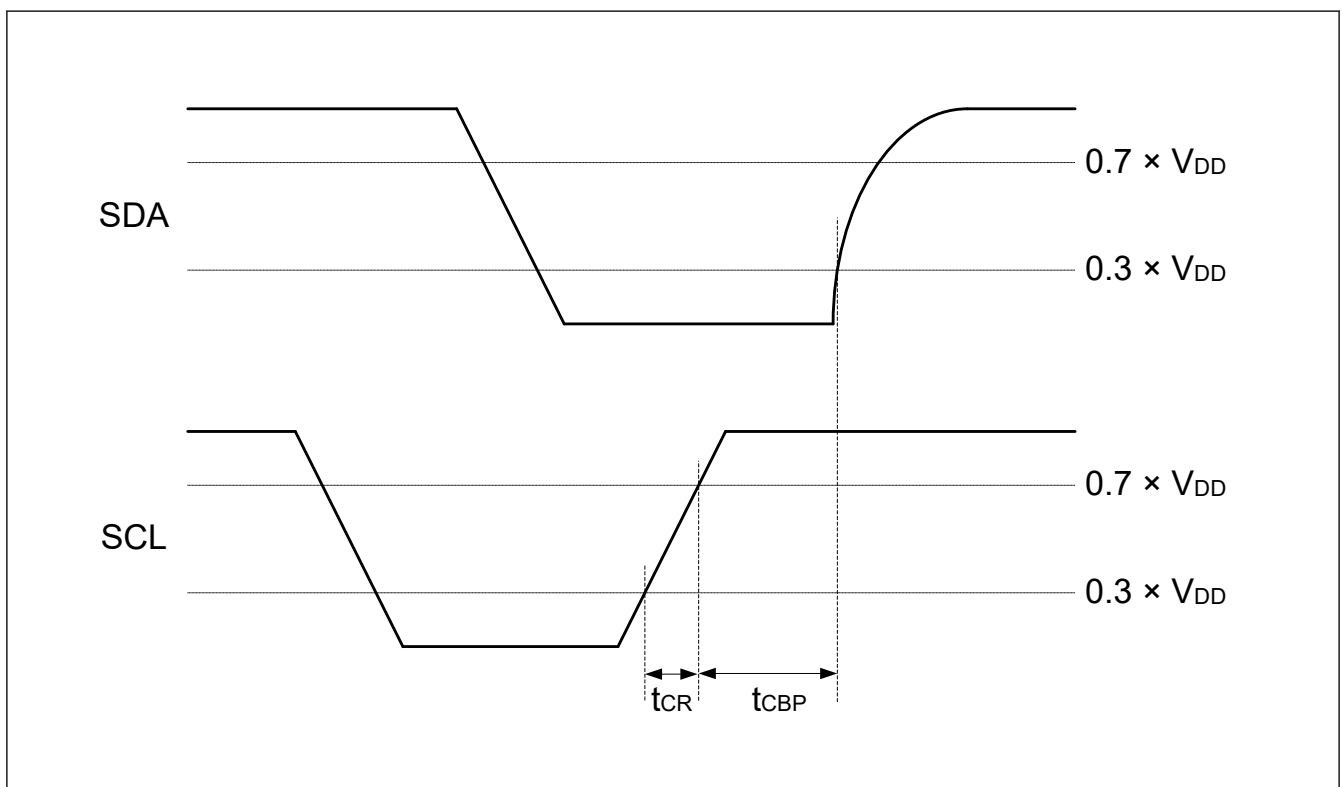

Figure 2.37 I3C STOP condition Timing
| Clock Before STOP (P) Condition | t _{CBP} | Figure 2.37 | t _{CASmin} | — | seconds | — |